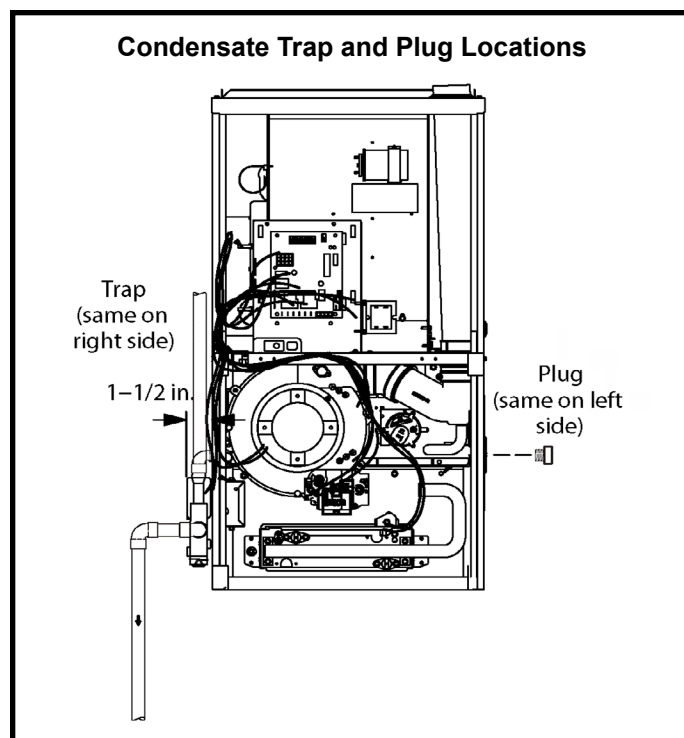

Figure 43
This unit is designed for either right or left side exit of condensate piping in downflow applications. Refer to Figure 43 for condensate trap locations.
2. Use a large flat head screw driver or a 1/2" drive socket extension and remove plug (Figure 43) from the cold end header box at the appropriate location on the side of the unit. Install provided 3/4 NPT street elbow fitting into cold end header box. Use Teflon tape or appropriate pipe dope.